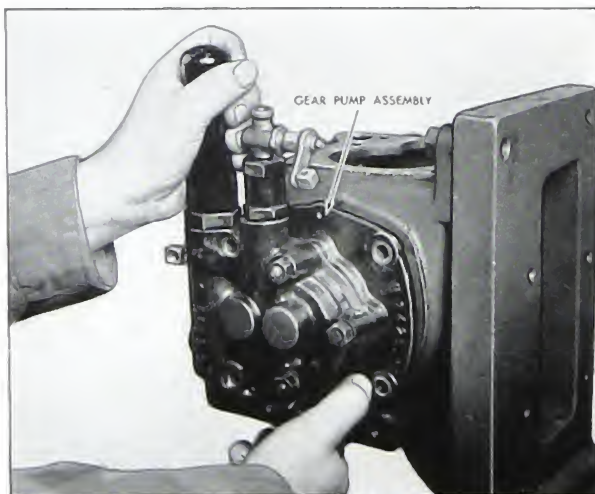

Fig. 5-136. Test for cam rocker lever
8. Assemble the gear pressure pump assembly to the main housing to make the test for the cam rocker lever assembly. Be sure to use the proper gasket between the main housing and the gear pump housing. Bolt a No. 1 gear pump housing or the gear pump, in position to the body. Fig. 5-136.